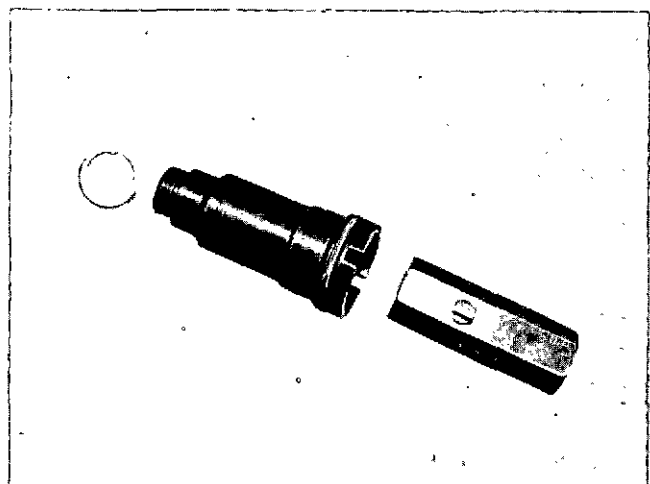

Fig. 2-2-7, NG19. Removing spark plug adapter with ST-890
1. Using ST-890 Adapter Wrench, Fig. 2-2-7, remove spark plug adapters from heads; remove and discard gaskets and "O" rings.